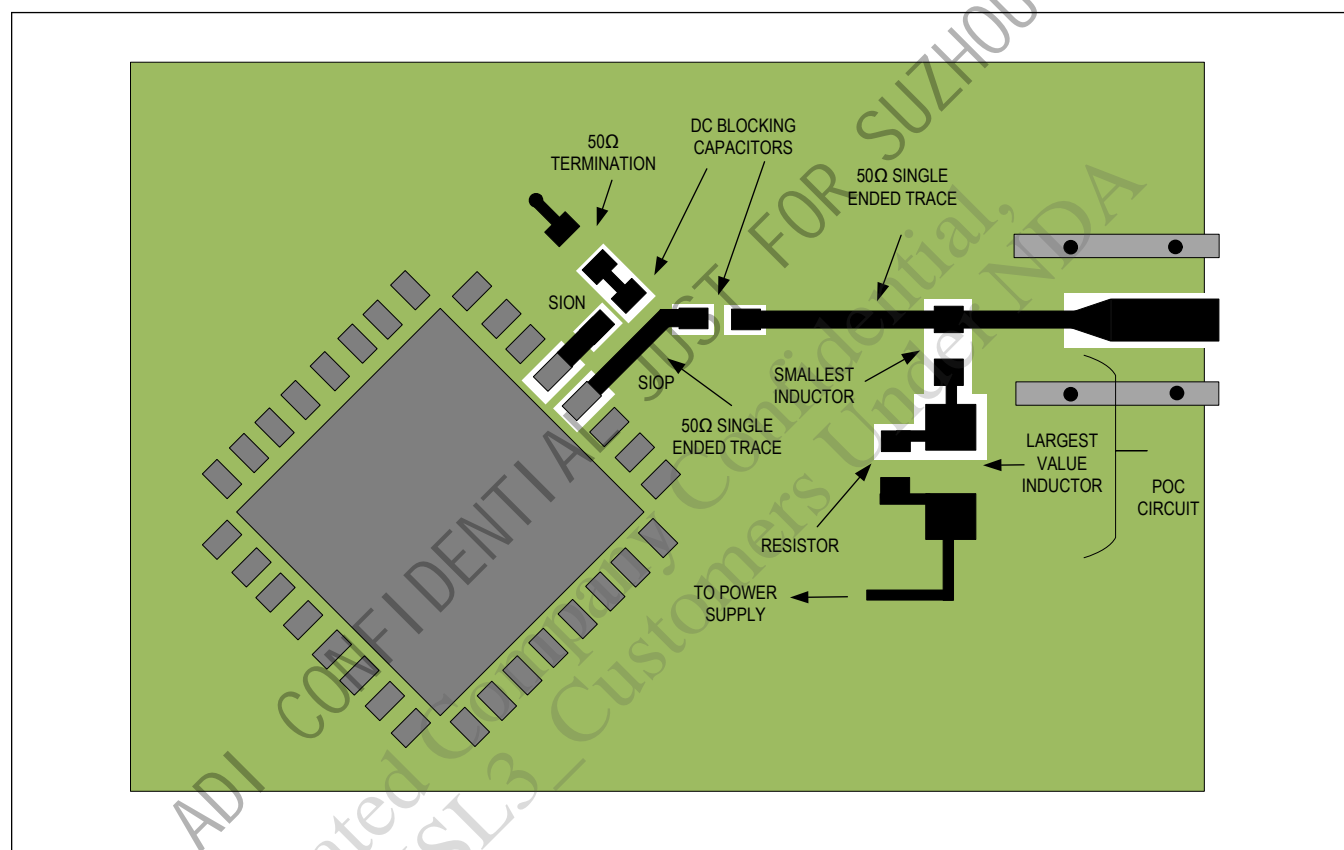

Figure 37. Coax PoC Layout Example
- Use ground cutouts as needed under first two inductors and resistors. See Figure 37.